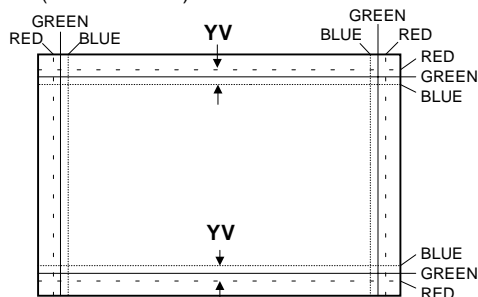

Fig. 4
2. Move the deflection yoke left to right to overlap the lines in the periphery, and match the  $Y_v$ . (See Fig. 4)